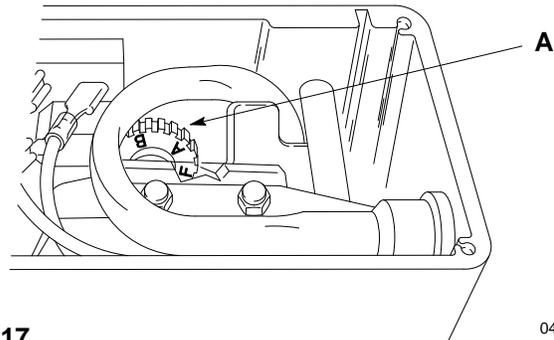

Fig. 17
**NOTE:** Do not alter this adjustment if the wheel is already set as shown in Fig. 17.
2. Set the white differential wheel (A) on the micro-switch. Turn the wheel so the letter **F** is concealed behind the switch and the letter **A** is the first letter seen.